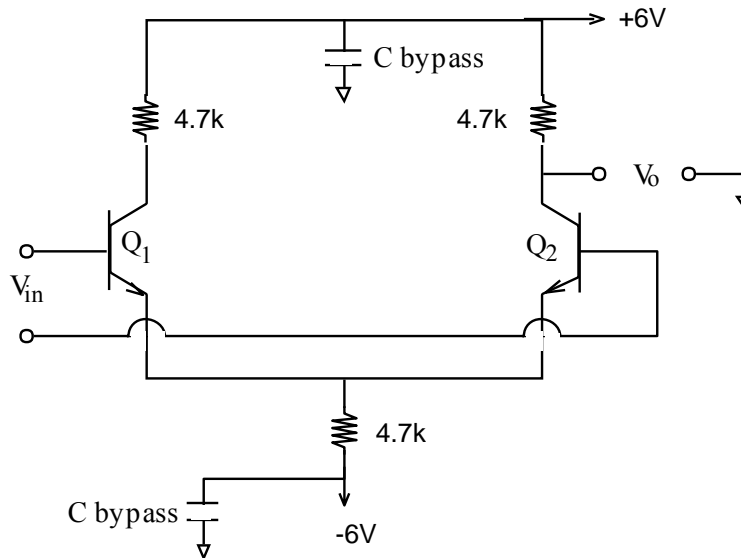

Figure 1
- Using transistors 1 and 2 in the array, construct the circuit in Figure 1. Be sure to connect pin 5 to -6 volts. It is also a good idea to bypass both your power supplies with $100\mu\text{F}$ capacitors. This will help reduce any power supply noise.